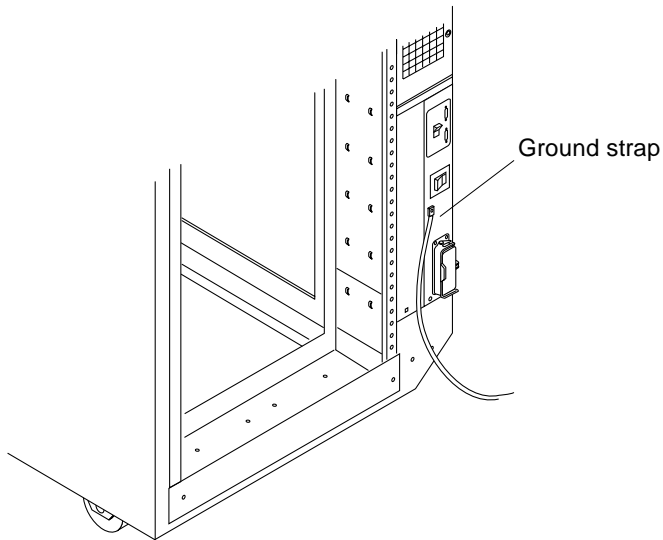

FIGURE 2-5 Connecting the Ground Strap
2. **Screw one end of the ground strap to the power sequencer (FIGURE 2-5) on the expansion cabinet.**